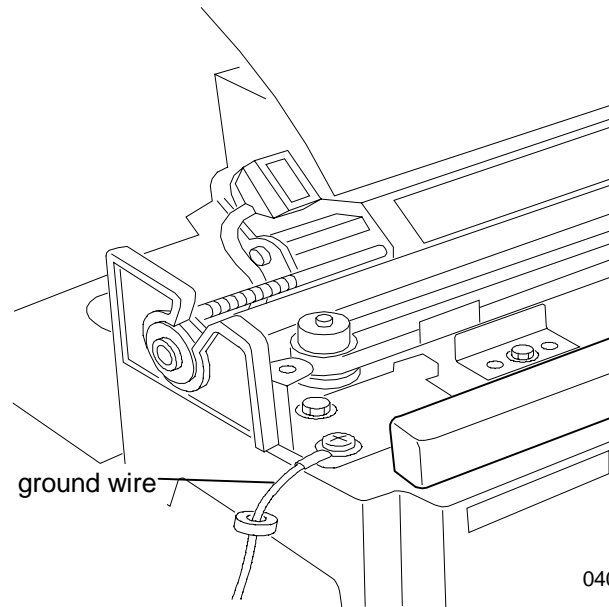

Figure 1. Left side
6. Loosen screw; disconnect ground wire from ground plate near front, left corner of Paper Feed / Carriage Assembly (Figure 1).